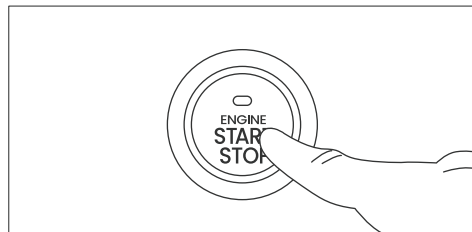

Fig.15
- Electric Start:** Press the start up button down for 1-3 seconds to start the generator (see Fig.15).